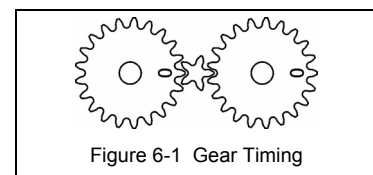

Figure 6-1 Gear Timing
6.2.3 Gear timing – Installing the Gear #2's with the timing marks "O" oriented as shown in Figure 6-1.